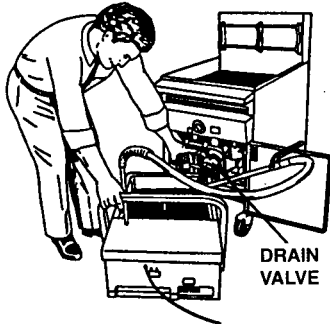

Figure 2.1: Drain fryer
1. Place filter under fryer drain. Open main drain valve and let oil flow completely into filter (See Figure 2.1).